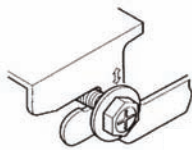

Fig.7
e. Lift the unit and slide forward until the dent. (Refer to Fig.7)